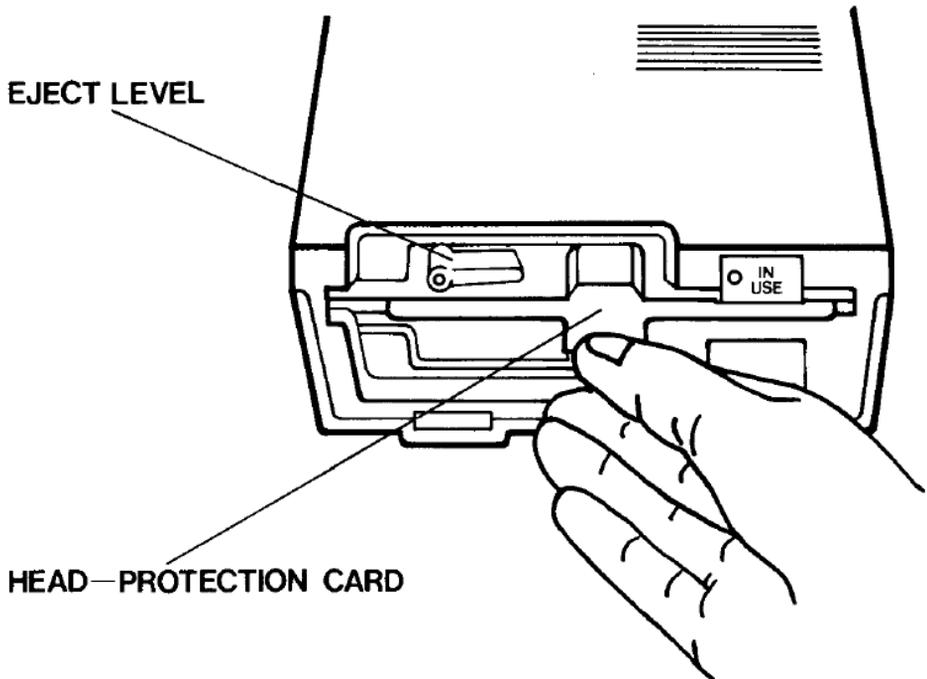

Figure 5 Removing the head protection card
| Figure 5 | |
- Step 2.** Take the head-protection card out of the drive slot (see figure 5). Keep this card and insert it again before transporting.